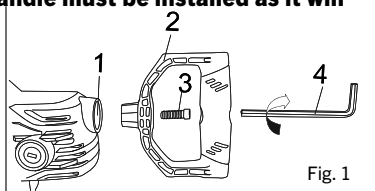

Fig. 1
To install the "D" handle (2), insert the "D" Handle (2) into the hole at the back of the drill (1), then insert the screw (3), insert the Allen key (4) into the screw (3), turn it **CLOCKWISE** to tighten it. (Fig. 1).